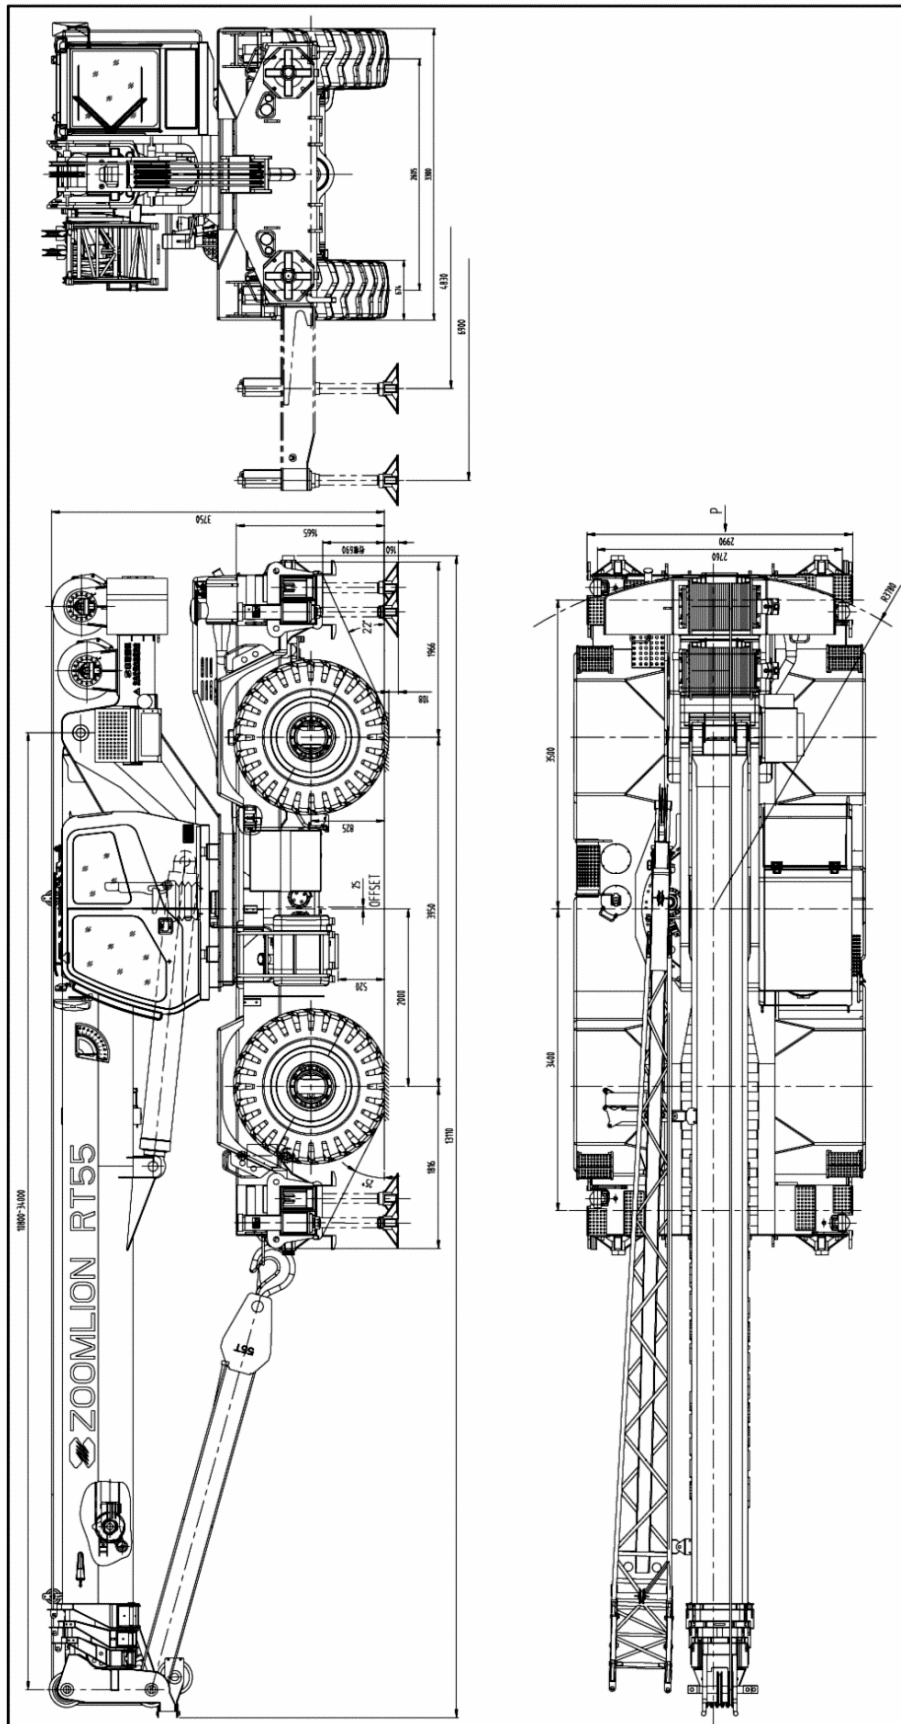

Figure 09 – 1 Overall View – RT55 Rough Terrain Crane
- (1) Four steering modes: 2-wheel steer (front wheel), 2-wheel steer (rear wheel), 4-wheel steer and Crab steer
- (2) Max. rated lift capacity: 60.6 tn at 9.8 ft. (55 t at 3 m) radius
- (3) Max. lift height: 114 ft. (34.8 m)
- (4) Max. travel speed: 24.23 mph (39 km/h)
- (5) Overall dimensions: 43 ft. x 10.8 ft. x 12.3 (13110 × 3300 × 3750 mm) (Refer to Figure 09 – 1)
- (6) Deadweight: 44.4 tn (40.26 t)
- (7) Ability to pick-and-carry loads
- (8) Rough terrain travel performance.